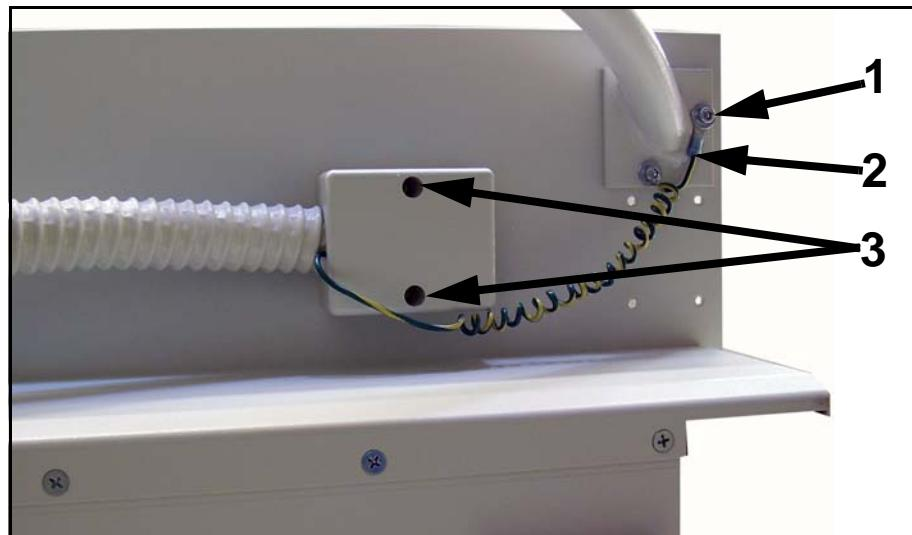

Figure 5-15. Conduit Box
- 21** Unscrew ground screw (1 in Figure 5-15) and remove ground wire (2).